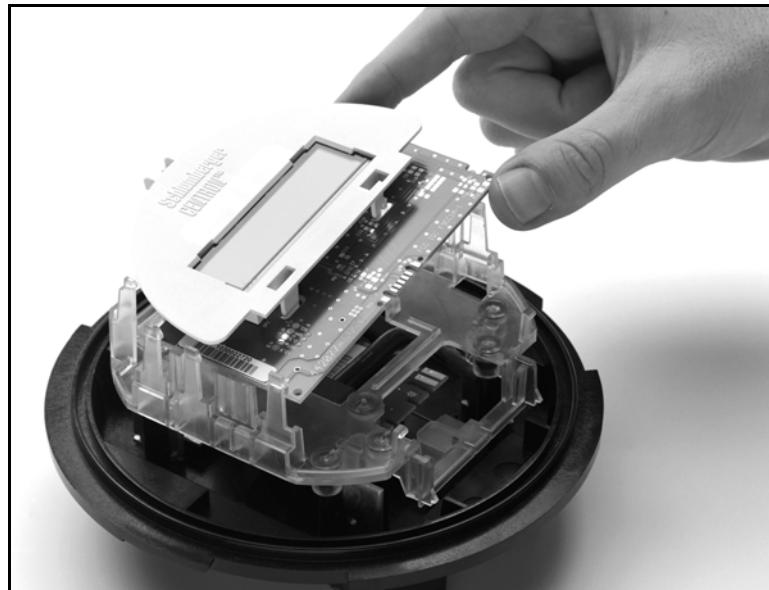

Figure 2.5 New Module Snap-in
- 6 Snap the new module into the meter frame by aligning the notches at bottom of the circuit board with the lower two snaps (see Figure 2.5).